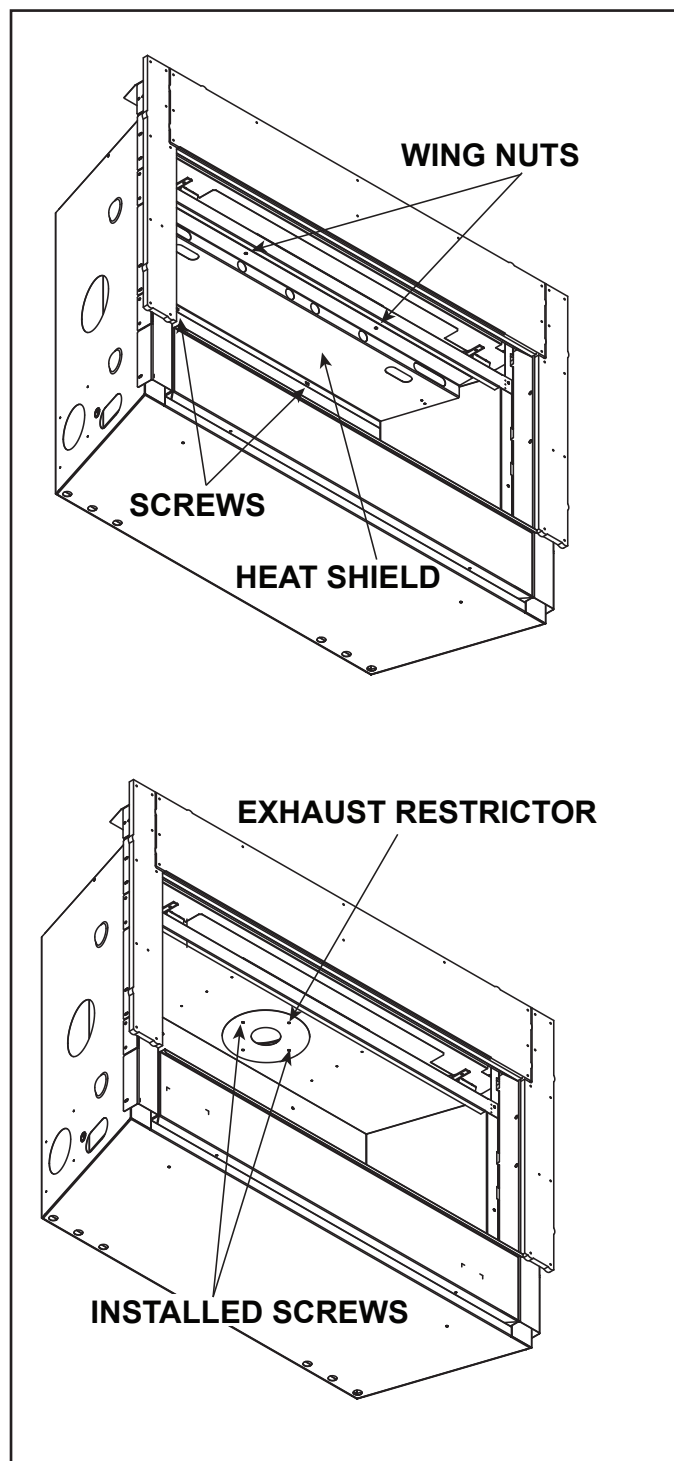

Figure 4.17 Installing Restrictor
2. **BOTH SIZES:** Center the exhaust restrictor in the open end of the exhaust outlet and secure through the slots on the exhaust restrictor with the two 1/4 in. self-tapping screws provided in the appliance manual bag. See Figure 4.17.